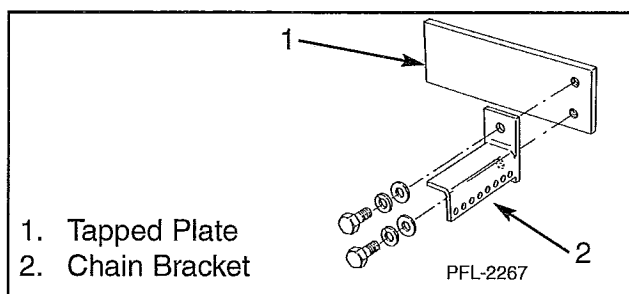

Figure 20
8. Bolt the tapped plates and chain brackets together. See Figure 20.